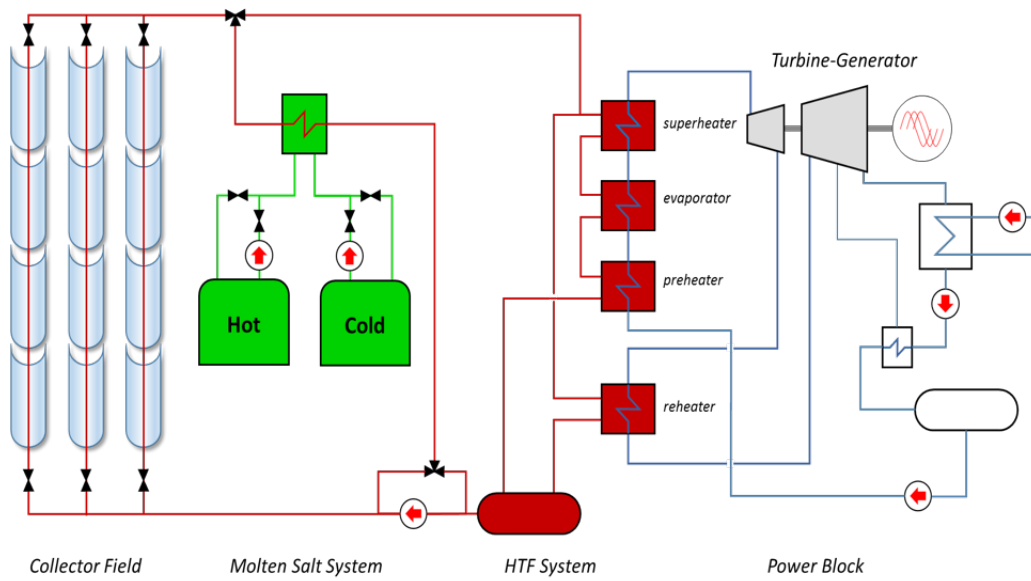

Figure 5: Parabolic trough with thermal oil as HTF and molten salt TES
- Figure 5: Parabolic trough with thermal oil as HTF and molten salt TES 6